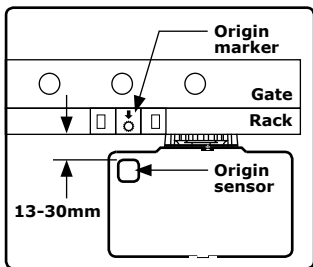

FIGURE 1
- Ensure that the sensor is as close as possible to the origin magnet - ideally the gap should be approximately 13mm. Refer to Figure 1 on page 2
- Move the magnet closer to the origin sensor. Refer to Figure 1 on page 2